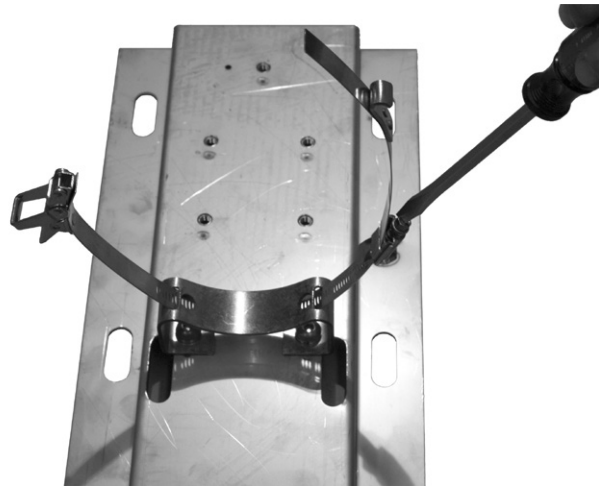

Figure 10. Connecting straps at drive screw
6. Reconnect the clamp straps at the drive-screw: Thread serrated strap into the smooth strap at the drive screw; Tighten the drive screw just until engaged. The drive screw is tightened in a later step. See Figure 10.